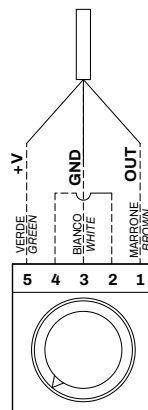

Fig. 3
5. Make the electrical connections to the control panel (fig. 3).
4. Fix the assembly plate using the screws (fig. 3) or two-sided tape supplied.